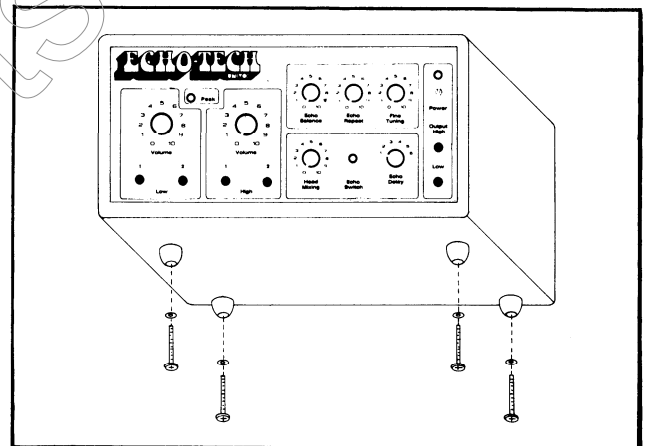

Figure 1 Case Bottom
- D) Make certain power (AC) cable is disconnected from wall outlet.
- a) Turn carrying case on its side and remove four (4) rubber bumper/screw units from case bottom (Fig. 1).
- d) The last part of reassembly is the reverse procedure of Fig. 1, 2, 3.